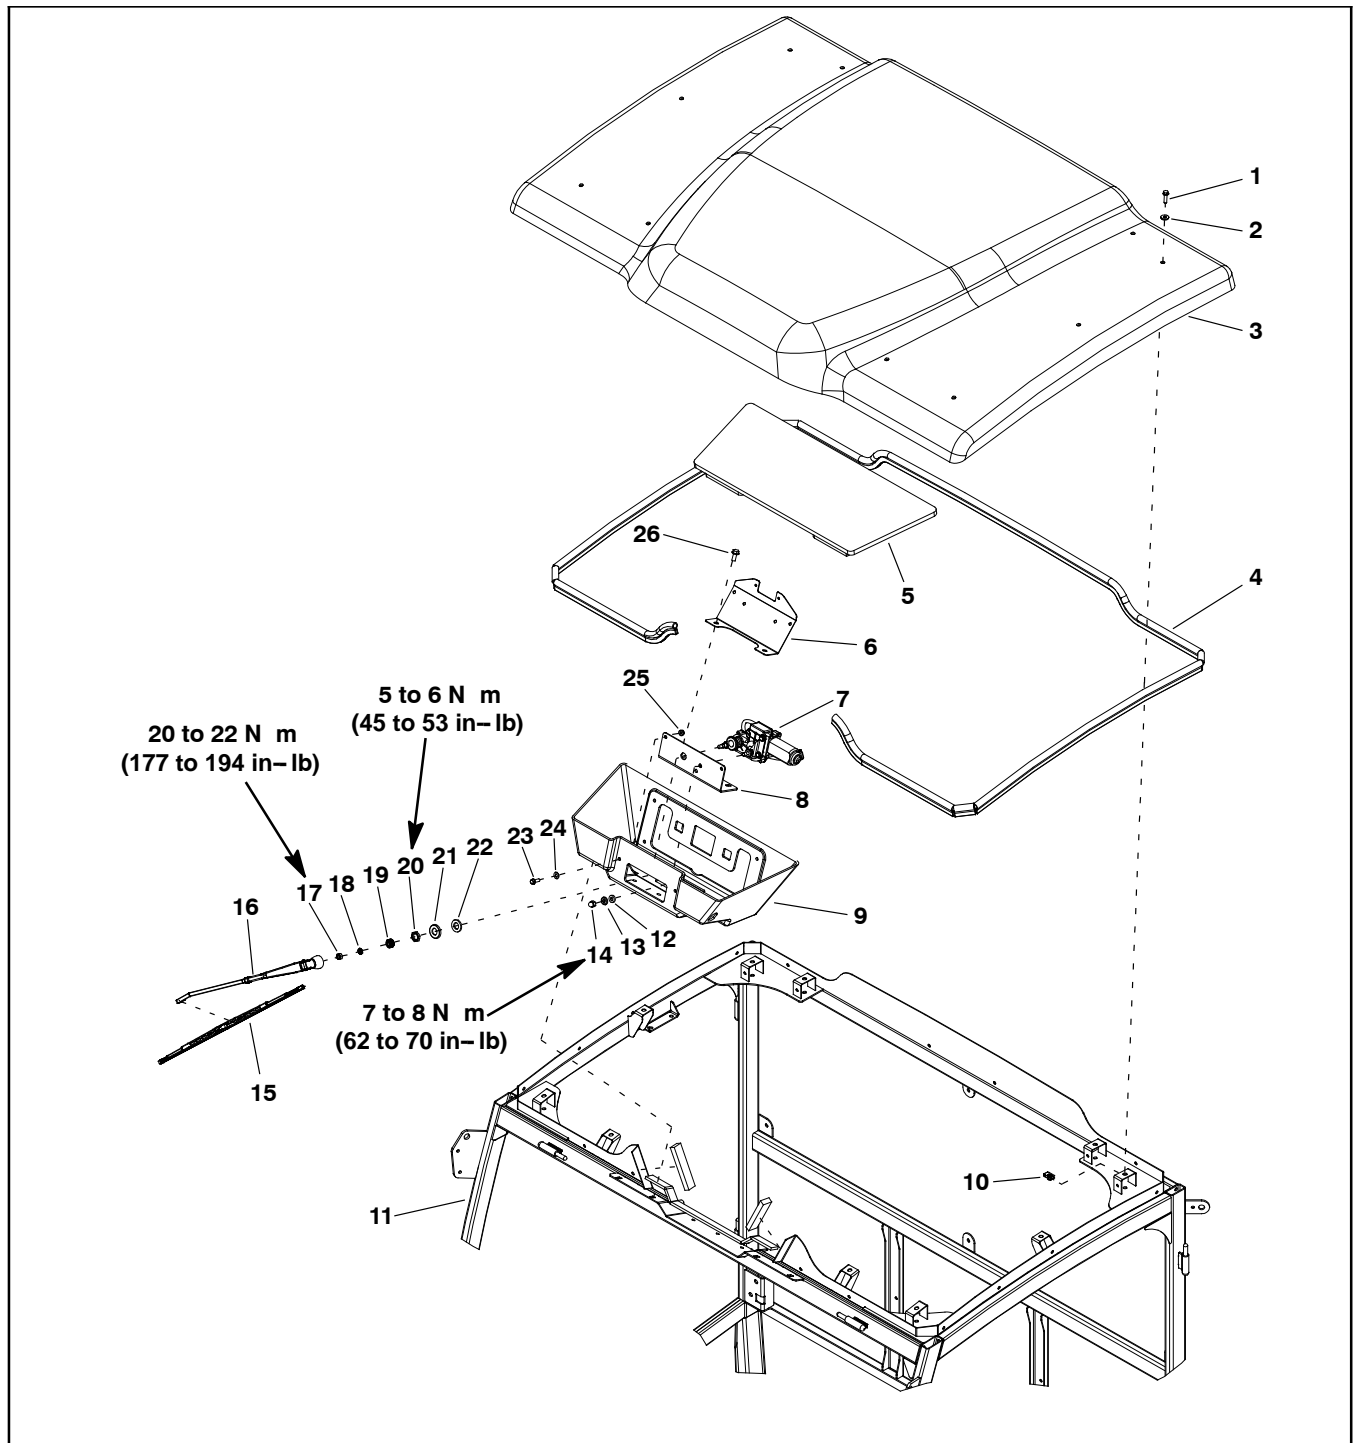

Figure 38
Removal (Fig. 38)
2. Remove the wiper blade (item 15 in Fig. 38) from the wiper arm.
5. Remove the wiper motor components as shown in Figure 38.
Installation (Fig. 38)
2. Install the wiper motor components that were removed (Fig. 38) and do the following: